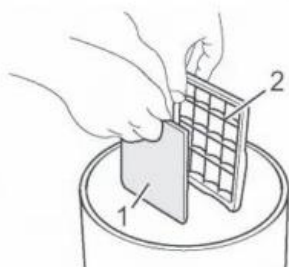

Fig. 23
3. Remove the motor protection filter (Fig. 23/1) from the filter holder (Fig. 23/2) over a dustbin.